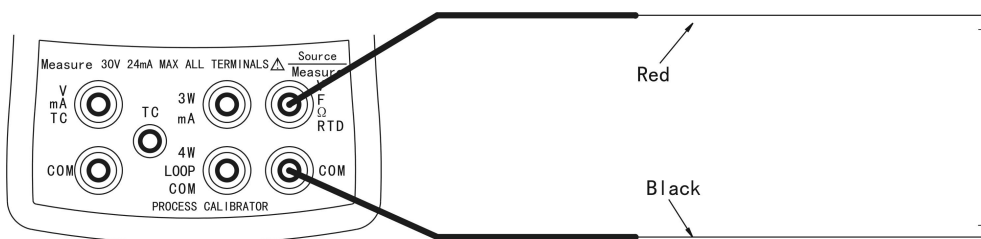

Figure6- 3 Resistance Sourcing Connections
- (1) Press until the lower display shows "SOURCE".
- (2) Press to select TC type. Continue pressing it to select the desired TC type.
- (3) Connect the test leads as shown in Figure6- 5.
- (4) Enter the desired output value by pressing the numeric keypads and press .